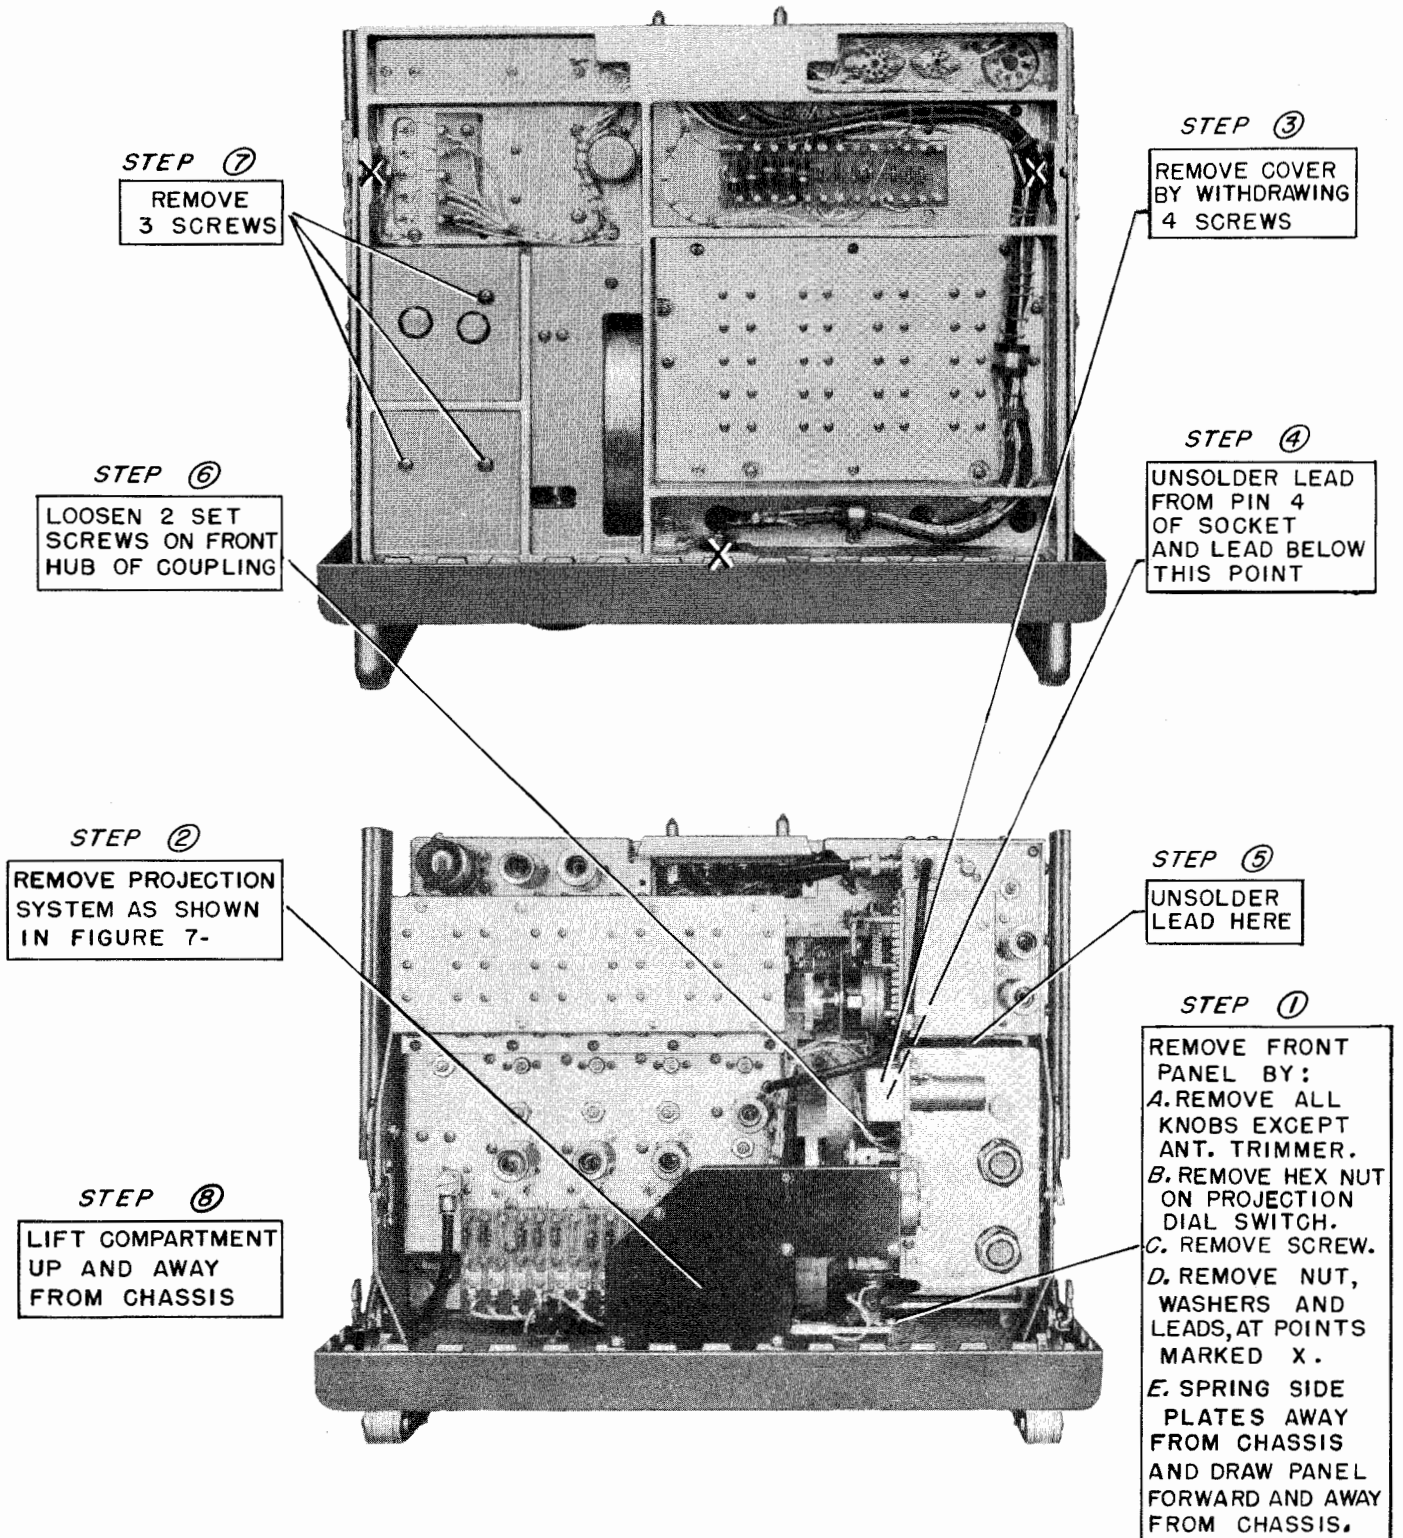

Figure 7-70. Instructions for the Removal of the Oscillator Compartment, Amplifier-Converter AM-450, AM-451 AM-452, AM-453/FRR-24
(5) REMOVAL OF BLOWER UNIT MOTOR.
Step 1. Remove the blower unit from the rack as described above (4).
(6) REMOVAL OF BLOWER UNIT AIR FILTER.—To remove the air filter, loosen the two captive fasteners on the retaining cover. Remove the retaining cover and lift the air filter out of the rack.
(7) REMOVAL OF SILICA GEL DRIERS.—When the two silica gel driers mounted on top of the oscillator compartment in the Amplifier-Converter units become saturated, as indicated by a change in color of from blue to brown, it will be necessary to replace them. To replace a drier turn the drier assembly in a counterclockwise direction until it is loose enough to remove. Lift the drier upward and away from the chassis. Do not destroy the saturated drier as its drying properties can be restored by heating or baking.
(8) REMOVAL OF OSCILLATOR COMPARTMENT, AMPLIFIER-CONVERTER.—To remove the oscillator assembly follow the instructions outlined on Figure 7-70. The replacement of the assembly can be accomplished by adhering to the instructions shown on Figure 7-70 in reverse.